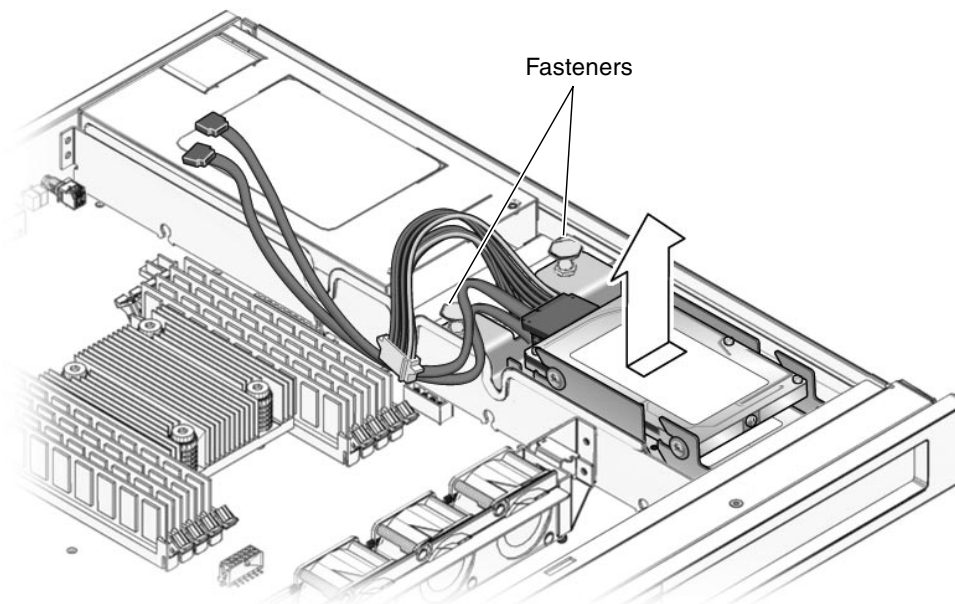

FIGURE 5-12 Removing the Dual-Drive Assembly
3. Pull the fasteners up on the rear of the dual-drive assembly and remove the dual-drive assembly from the chassis (FIGURE 5-12).